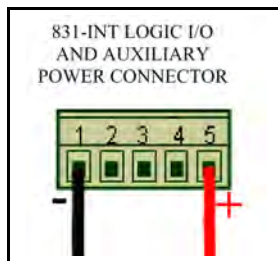

FIGURE B-3 PROPER POWER CONNECTIONS TO LOGIC I/O AND AUXILIARY POWER
- Verify that the CBL167 cable is connected to 831-INT Logic I/O and Auxiliary Power; ensuring that power connections are correct (including polarity). *See Figure B-3.*
- Ensure the Raven gateway is powered correctly with its own cable to the 831-INT-ET AUX POWER and Logic I/O port, with correct pins and polarities. *See Figure B-3.*